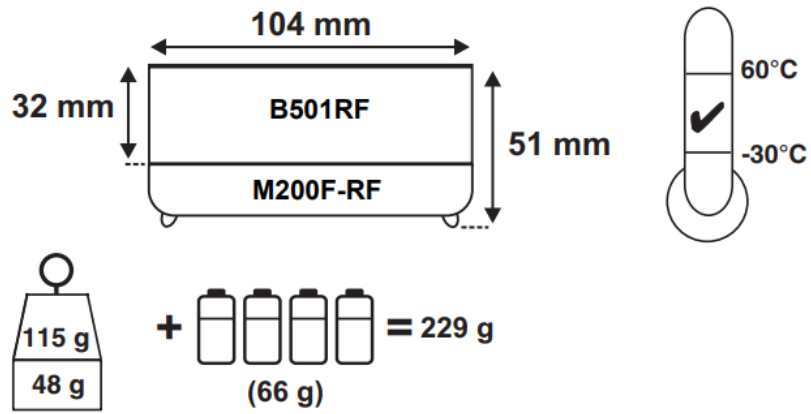

Figure 1: B501RF Mounting
- **Mounting the B501RF Base:** Spacing between radio system devices must be a minimum of 1m. Refer to Figure 1 for details.
Figure 1 details the mounting of the B501RF base.